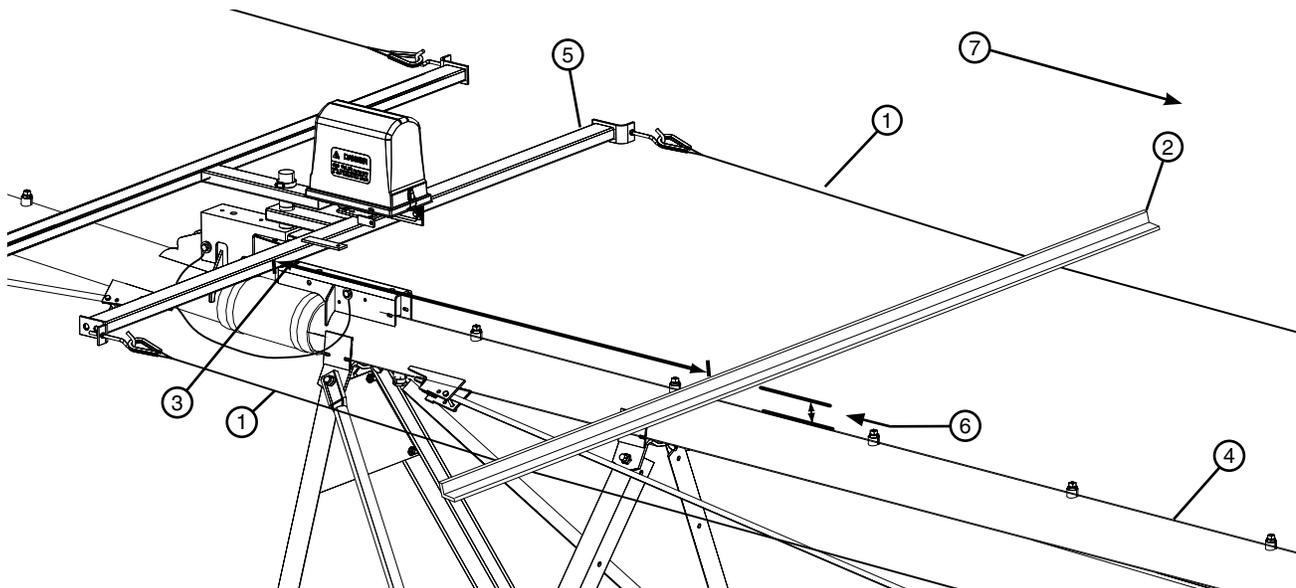

Figure 86-1
8. Measure and record the distance from the truss spreader to the span pipe. This is the DEFLECTED measurement. See Figure 86-1.
9. Subtract the DEFLECTED measurement from the ORIGINAL measurement. The difference should be approximately 1-3/4 in to 2 in (41 mm to 51 mm), if it's not, the hook bolts should be adjusted. See Figure 86-1.